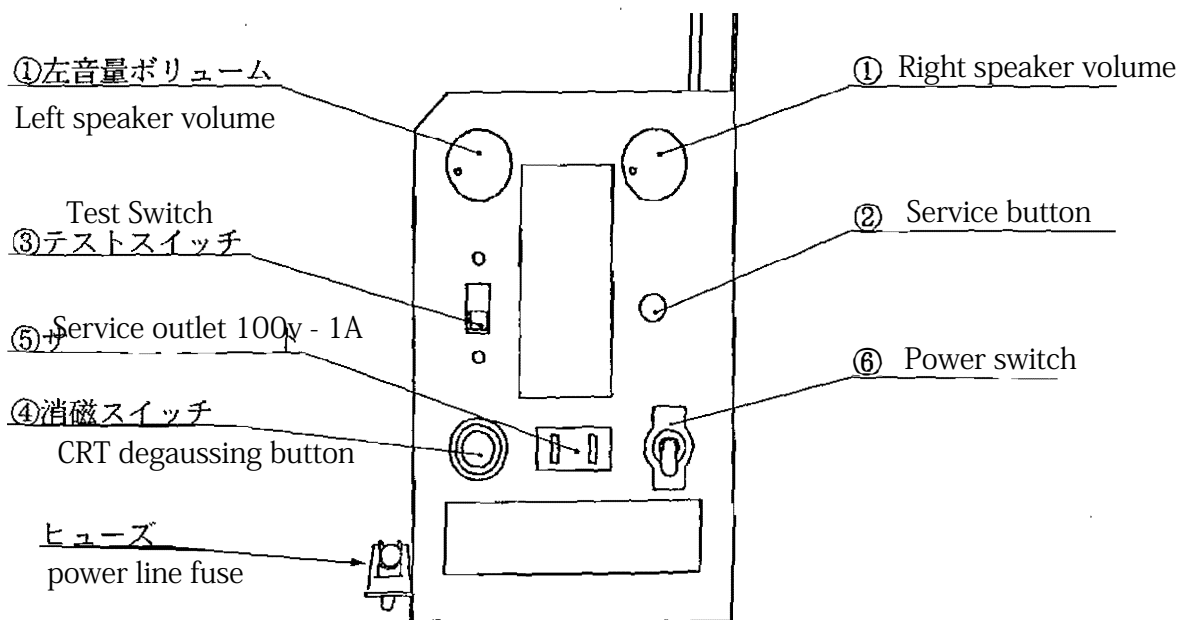

Figure 4
- 2) Replace the fuse (see Figure 4 on page 9).